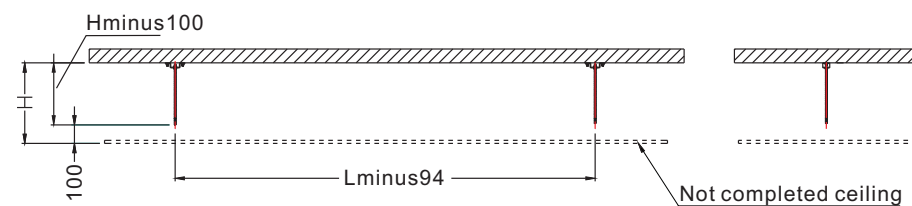

Figure28
- 1) Install the hanging bracket at a required position before ceiling fitment (M12 bar is not provided) (figure 28).